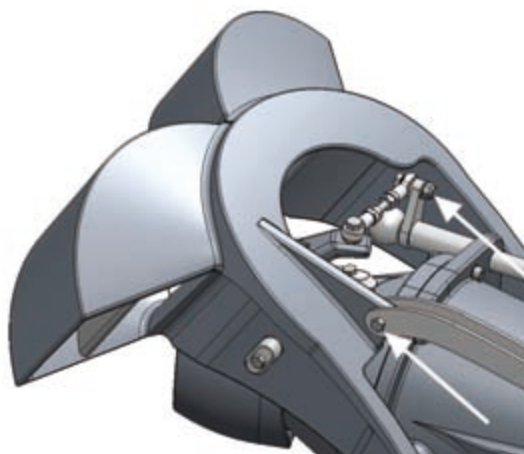

Figure 27. Reversing deflector screws
1. Open the screws indicated by arrows in Figure 27.